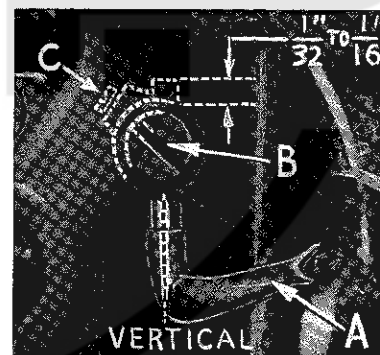

Fig. 7
Insert spreader (A, Fig. 7) in its holder. Screw (B) holds spreader in its holder, and permits it to be pushed in or out or turned around its shank. Insert spreader holder into spreader shaft, if it is not already in place. Screw (C, Fig. 7) on clamp collar holds spreader holder in the shaft, and allows holder to be rotated or adjusted laterally.
Preliminary Setting: When spreader is at the right end of its stroke, spreader holder should be set to position spreader shank about vertical (Fig. 7). Top end of spreader shank should extend $\frac{1}{32}$ to $\frac{1}{16}$ inch above the spreader holder (Fig. 7).